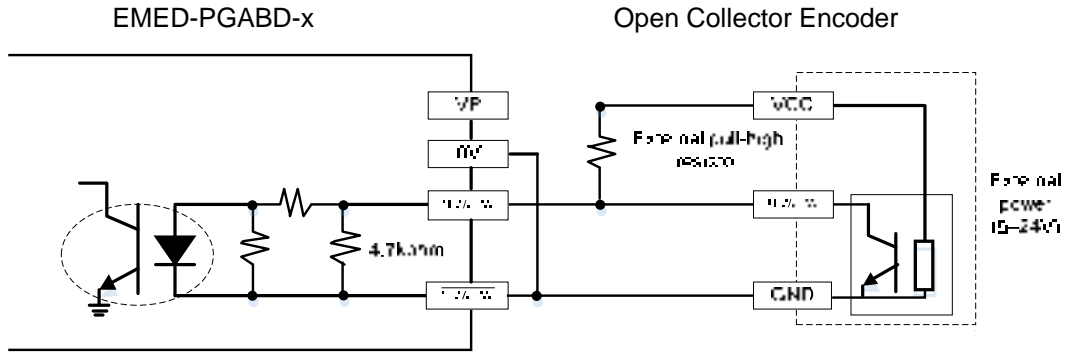

Figure 2
1. Open collector output encoder application: Use one pull-up resistor for each set of input current 5–15 mA. If open collector input voltage uses 24V power, connect the encoder power externally. See the PG wiring Figure 2 below.